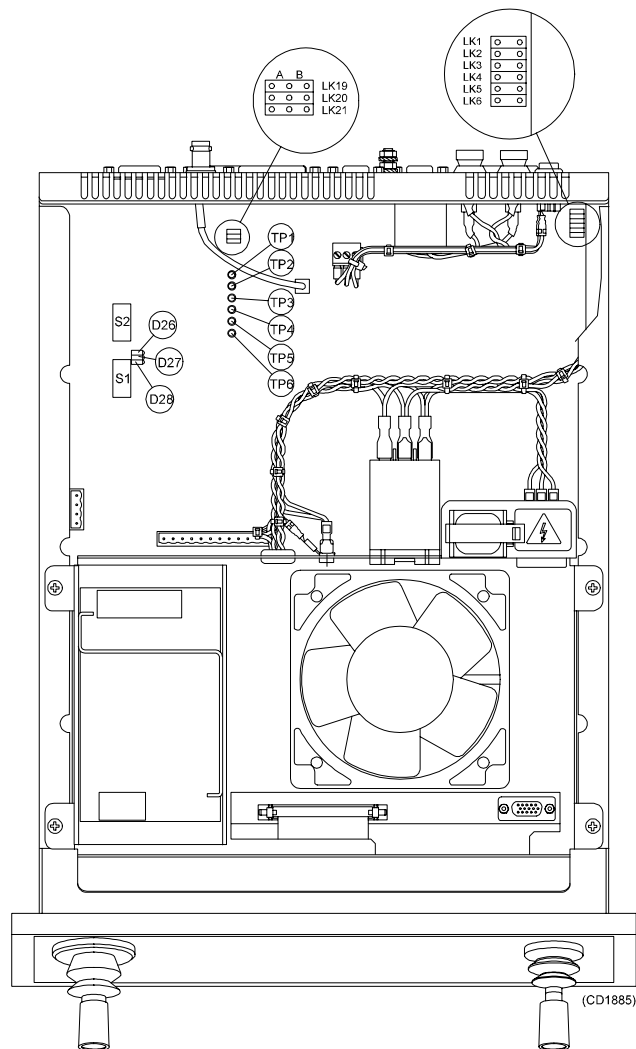

Figure 2 - Location of the links
- Refer to figure 2 for location of the links LK1, LK4 and LK5, and set the links according to the table below.